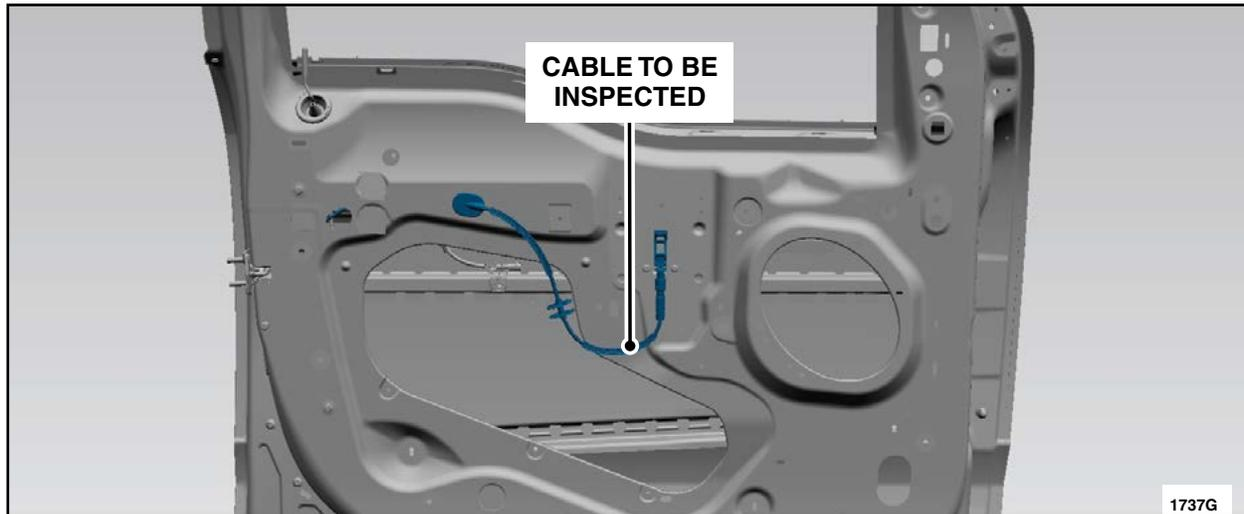

FIGURE 15
3. Inspect the interior door handle to latch release cable for kinking. See Figure 15.